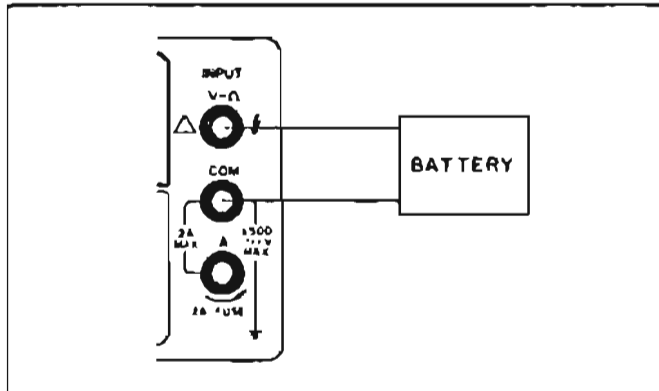

Figure 3-5. DC Voltage Measurements
- Connect test leads from the Multimeter V Ω (high) and COM (low) terminals to the voltage under test as shown in Figure 3-5.